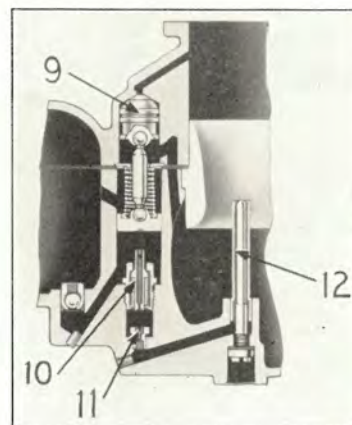

Figure 3
system. Refer to Figure 3. When the manifold vacuum is low, as when the throttle is opened quickly or when high engine speeds prevail, the Economiser Piston Assembly (9) drops in its cylinder and forces fuel through the Economiser Valve (10). The Power and Accelerating Jet (11) measures the rate of discharge of this fuel which passes into the air stream through the Discharge Tube (12).